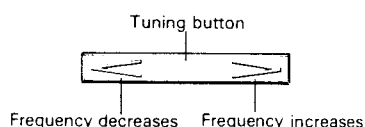

Fig. 10
Press Manual/Seek Select Button ⑫ to select Manual Tuning. (Digital Display ⑤ indicates nothing during Manual Tuning but SEEK illuminates during Seek Tuning.) Press the right or left side of Tuning Button ⑪ to set the desired station. (Fig. 10)